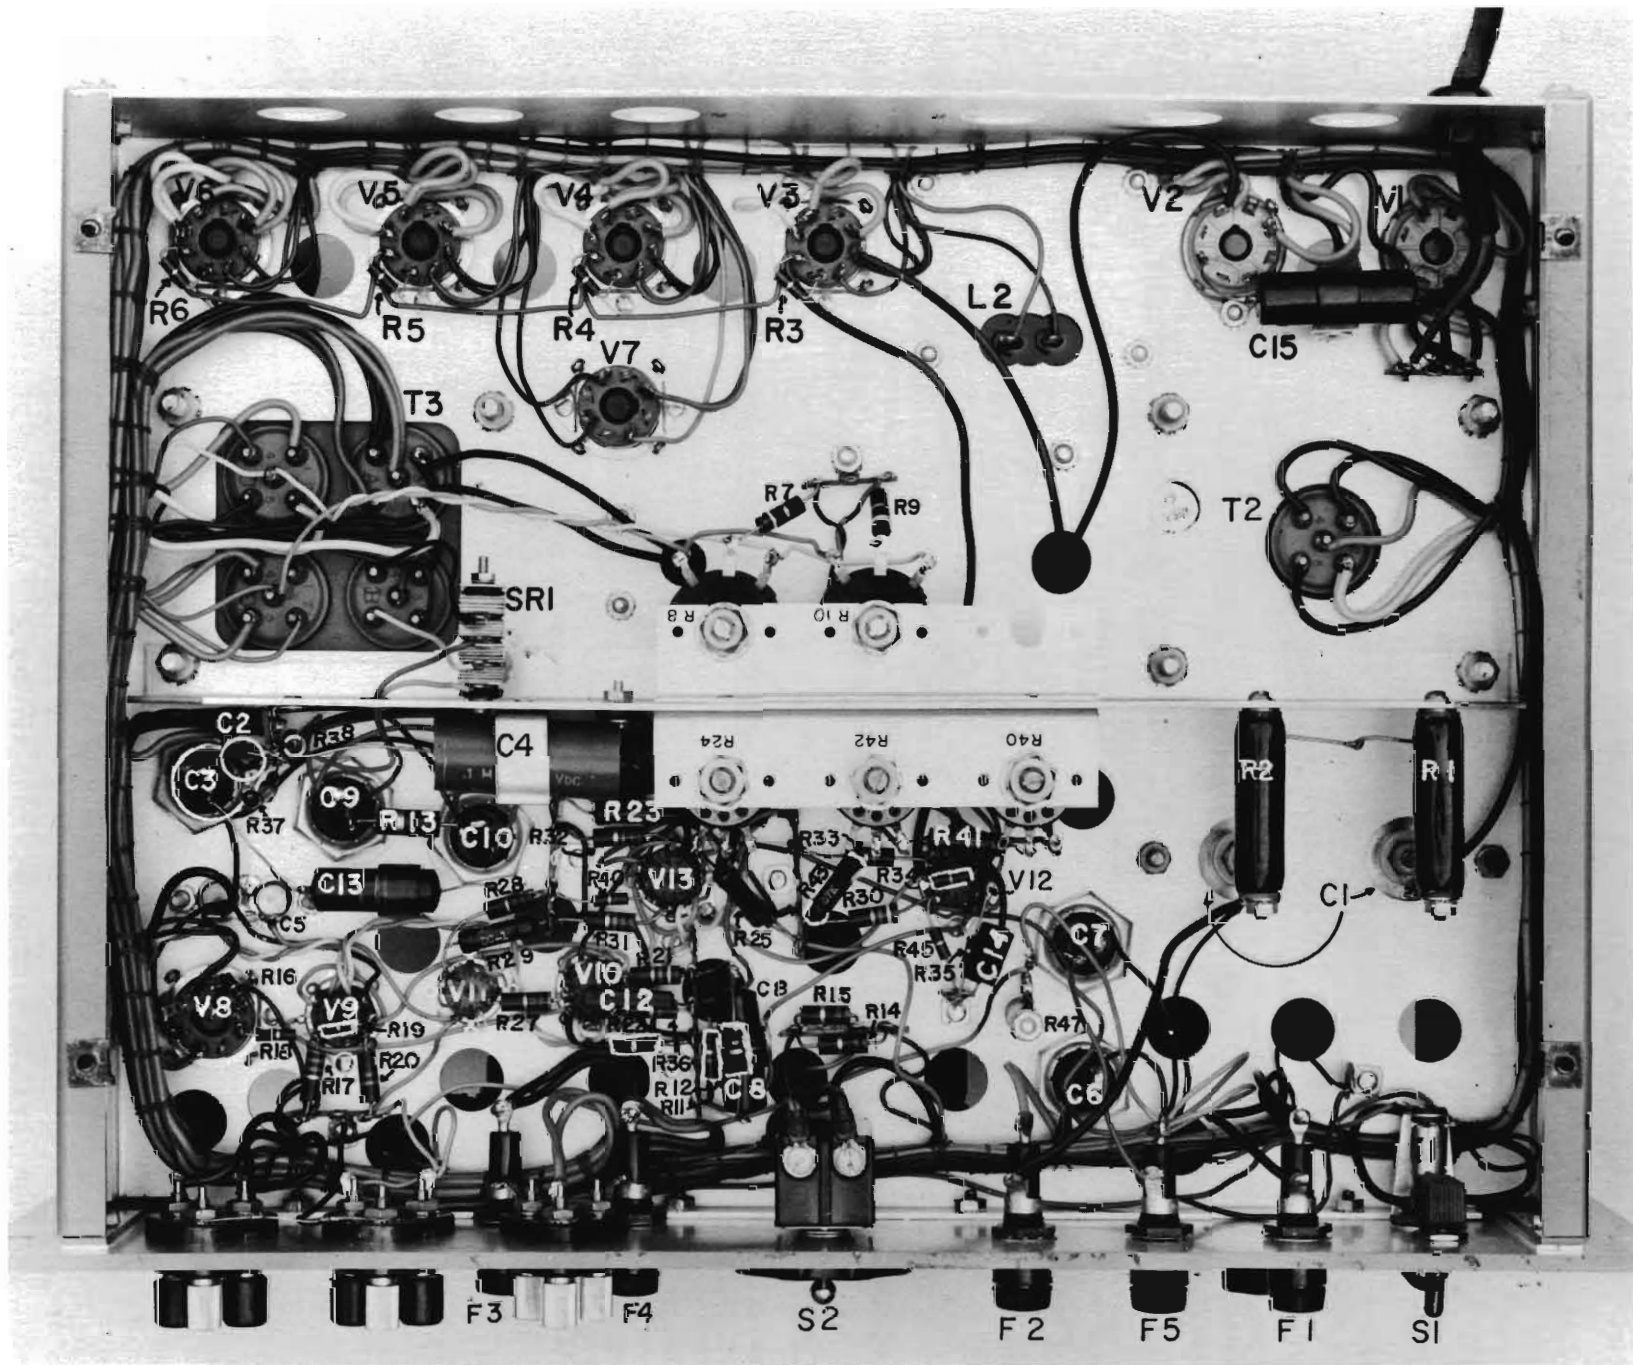

Figure 4. Model 712B Bottom View Bottom Plate Removed
Location of resistors R40, R42, R24, R10, and R8 on the bottom of the instrument are shown in Figure 4.
- d. If the new reading of the VTVM differs by more than .01 - .02 volt, adjust variable resistor R8 (see Figure 4), and repeat steps b and c.
- b. With the METER RANGE switch in the 0-500V position and the HV CONTROL in its maximum clockwise position, adjust variable resistor R42 (see Figure 4) until the DC voltmeter on the control panel reads +500.